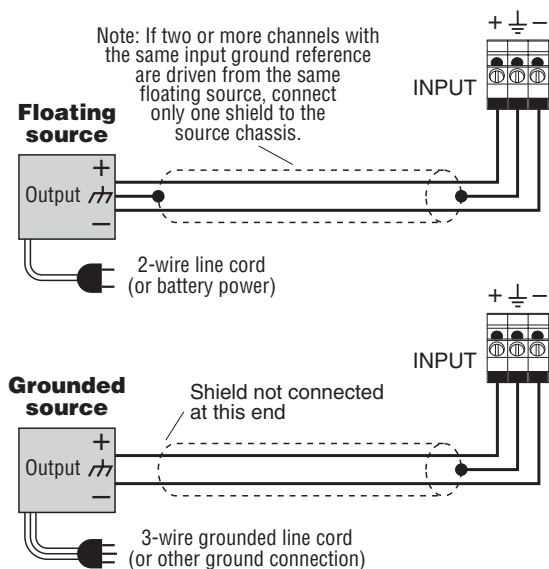

Fig. 3.8 Balanced Input Wiring
Proper input wiring depends on two factors: (1) whether the input signals are balanced or unbalanced, and (2) whether the signal source floats or has a ground reference. The following illustrations provide examples of recommended connection techniques for each type of signal source. (See Figures 3.8 and 3.9.)